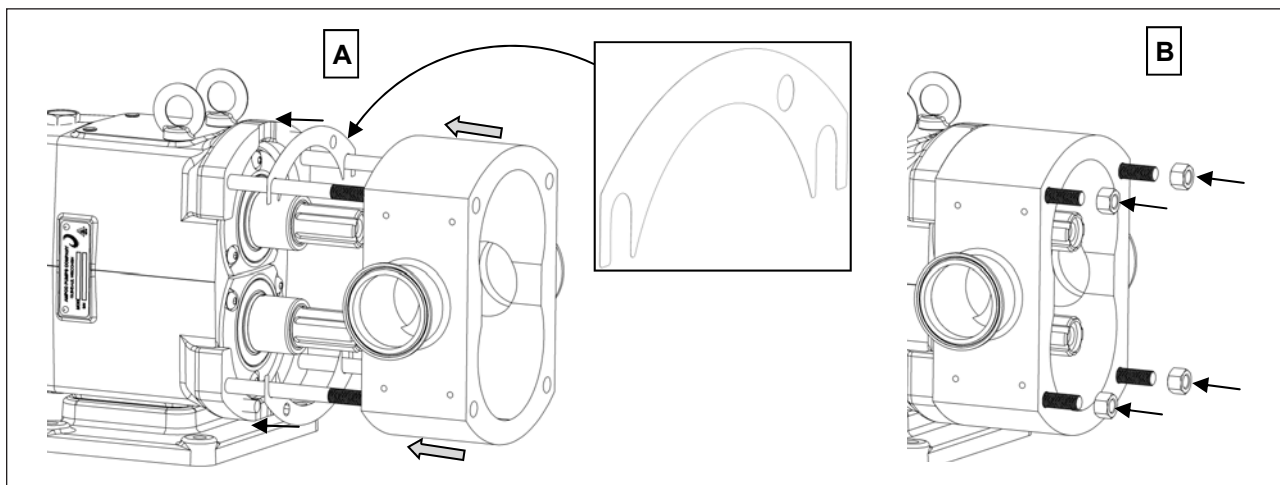

Figure 45. Installing Shims and Pump Body
3. To prevent damage to the shafts, wrap the shaft splines with electrical tape (*Figure 45, A*). Any damage to the shaft splines may require the shaft to be replaced. Remove the screws holding the bearing retainers in place and slide both bearing retainers off the shaft (*Figure 45, B*). If they are stuck, use a flat head screwdriver as a wedge to pry them from the gear case, or leave them in place and when the shafts are removed they will press off with the shafts. Remove the o-rings from the bearing retainers and replace if damaged.